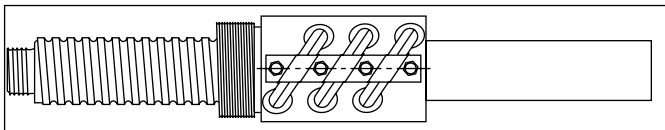

Figure 4
2. Slide the ball nut down to the screw shaft and rotate to the thread until you feel the balls drop into the screw thread. Then rotate with the screw thread until the ball nut completely clears the end of the screw shaft adjacent to the arbor. (See Figure 4.)